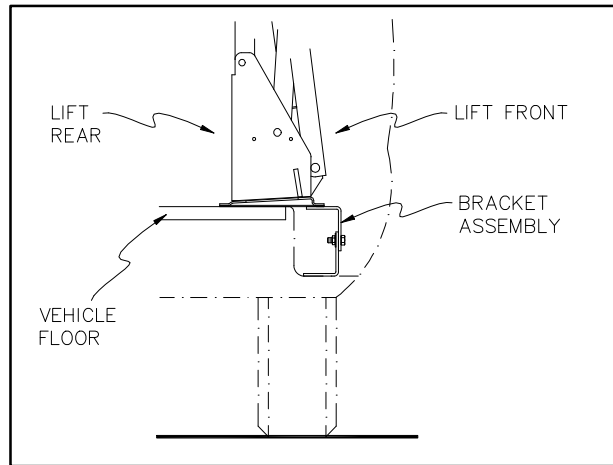

FIGURE 2-4: BRACKET ASSEMBLY
- g. Refer to **Figure 2-4**. With door(s) fully open, position lift in vehicle doorway so that back is supported by vehicle floor and front is supported by both bracket assemblies.